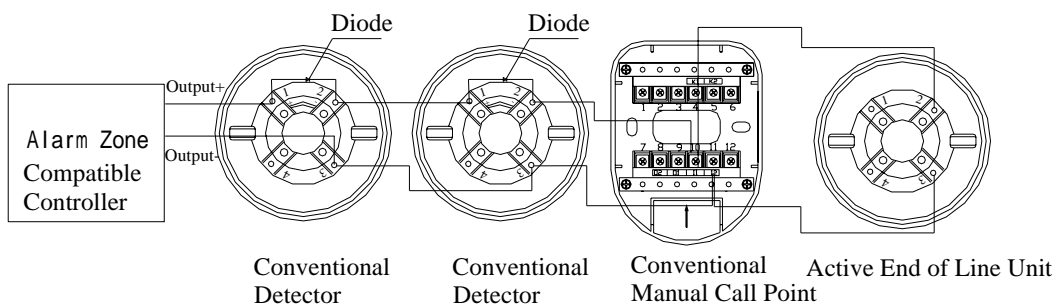

Fig. 6 System composition
- 2) When the active end of line unit is not used as the detector base, a cover should be added to it. The system composition is shown in Fig. 6.